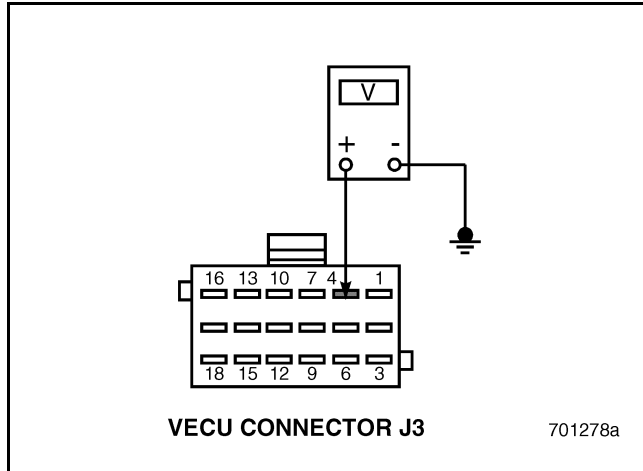

Figure 570
2. Disconnect the Throttle Position (TP) Sensor.
5. Measure the voltage between VECU connector J3 pin 4 and a good ground (see Figure 570).